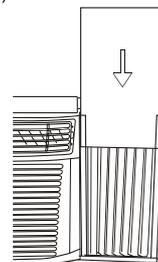

Fig.13
Step 3. Slide the cut R1 insulation panel into the side curtain (Fig.13).